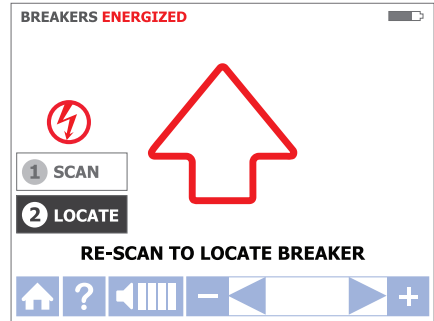
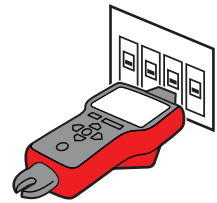

Figure 3.4c
Figure 3.4d
- b. Scan each breaker/fuse for a half second by touching it with the Tip Sensor. Make sure the groove on the Tip Sensor is parallel to the breaker/fuse lengthwise (See Figure 3.4d)
- Select LOCATE mode by using the directional arrows to highlight this operating mode and pressing the yellow “ENTER” button. (See figure 3.4c)
- Rescan each breaker/fuse by touching each with the Tip Sensor for a half second. Active red arrow indicates scanning process (see Figure 3.4c). Make sure the groove on the Tip Sensor is parallel to the breaker lengthwise. (See Figure 3.4d)